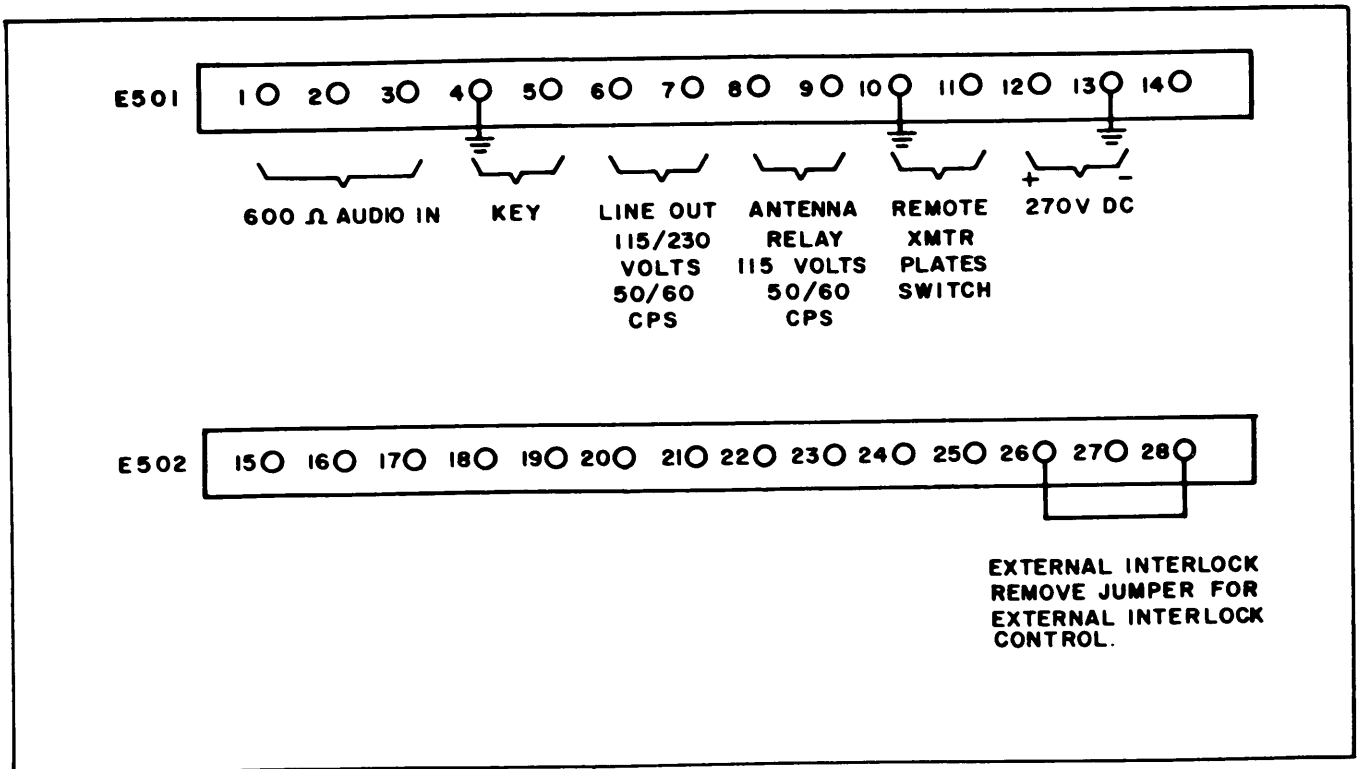

Figure 2-3. Cabinet/Frame Assembly CAB-7, Terminal Board Connections
Step 18. The installation connections to terminal boards E501 and E502 on the rear of the cabinet are shown in figure 2-3.